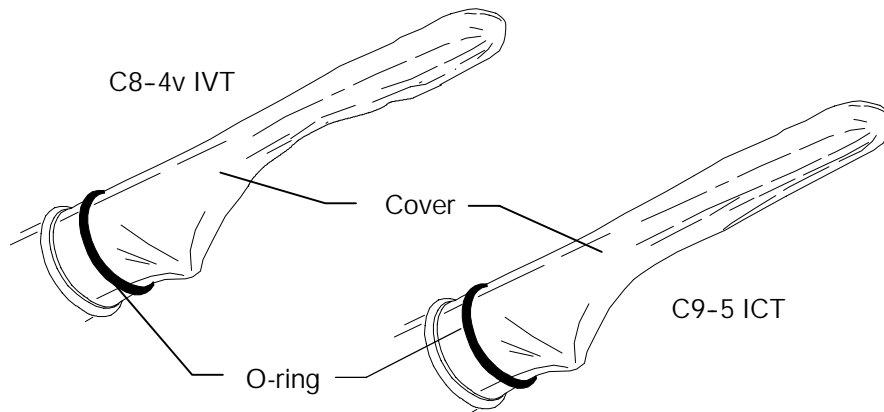
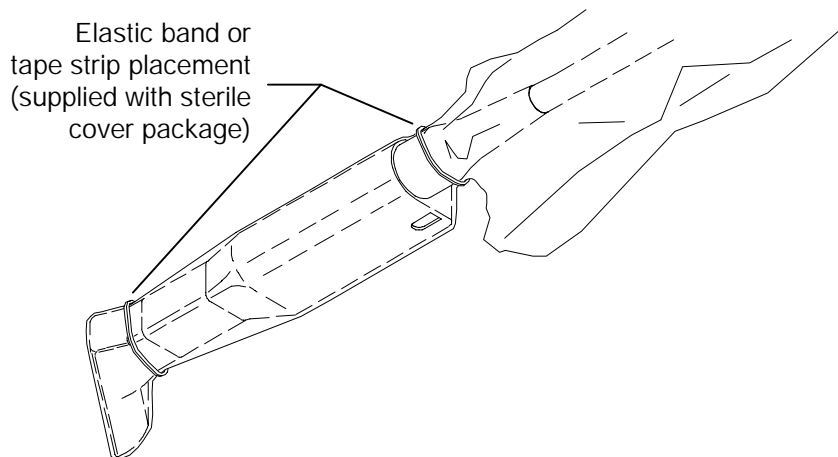
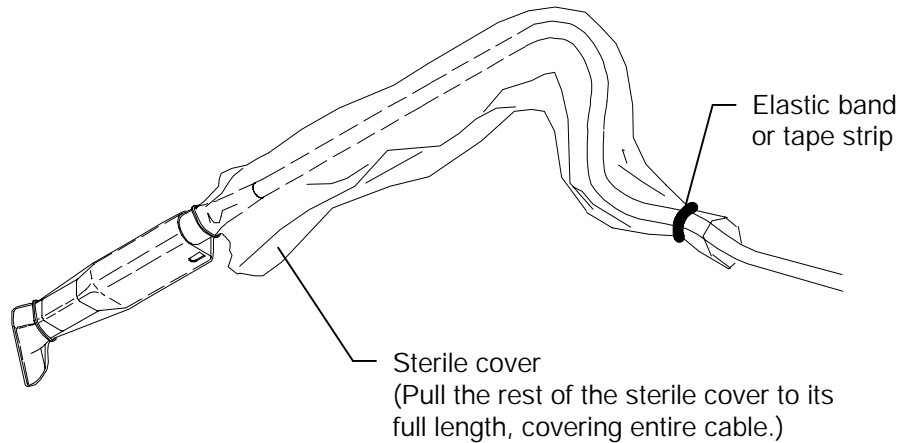

Figure 6-3. Intracavity Scanheads with Sterile Cover
Figure 6-4. Securing the Sterile Cover to a Scanhead: Example
Figure 6-5. Securing the Sterile Cover to the Scanhead Cable: Example
3. Insert the tip of the scanhead into the center of the rolled cover, and then unroll or pull the cover to completely cover the scanhead, and if appropriate, the scanhead cable (Figure 6-3 through Figure 6-4).
5. Secure the cover to the scanhead, and if appropriate, the scanhead cable (Figure 6-3 through Figure 6-5). A securing O-ring is not required if a biopsy guide is installed over the cover on the scanhead.